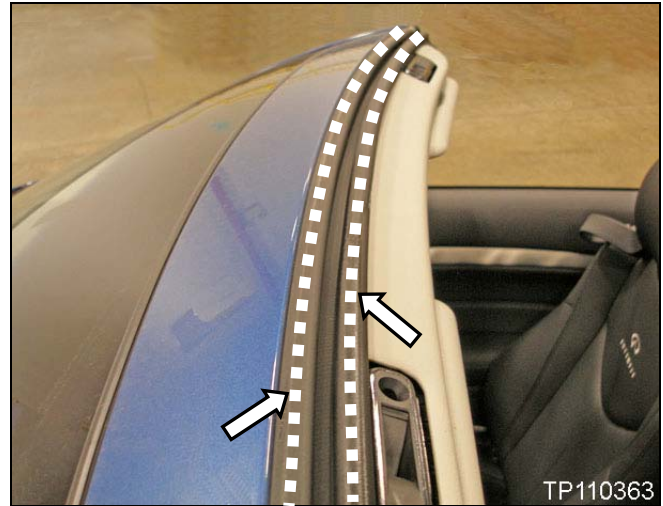

Figure 4e
- Make sure to apply lubricant on both surfaces of seals with two (2) contact surfaces. See Figure 4e for example.